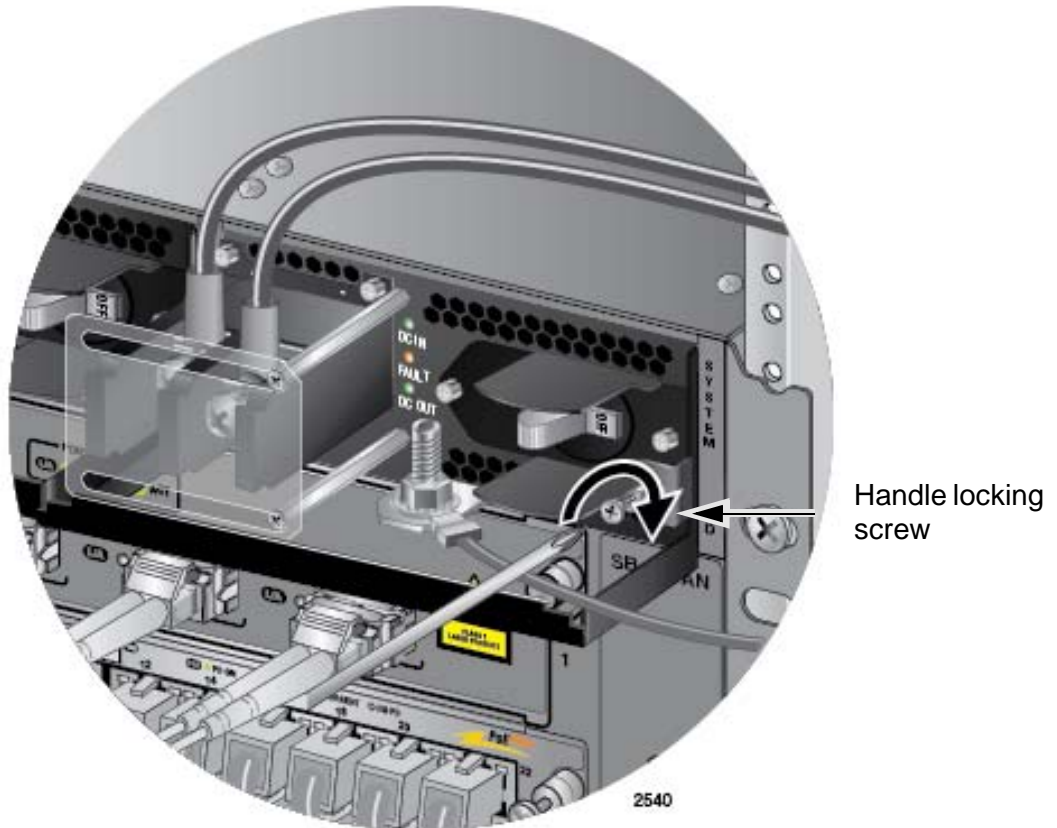

Figure 133. Tightening the Handle Locking Screw
9. With a #2 Phillips-head screwdriver, tighten the handle locking screw to secure the power supply to the chassis. See Figure 133 on page 195.
8. With a #2 Phillips-head screwdriver, tighten the handle locking screw to secure the power supply to the chassis. See Figure 133 on page 195.